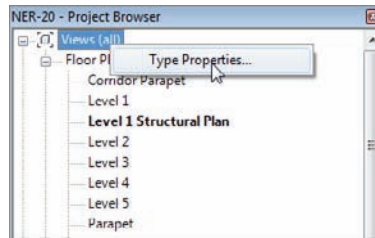

FIGURE 8.70 Right-clicking in the Project Browser
4. In the Project Browser, right-click Views (All), as shown in Figure 8.70.